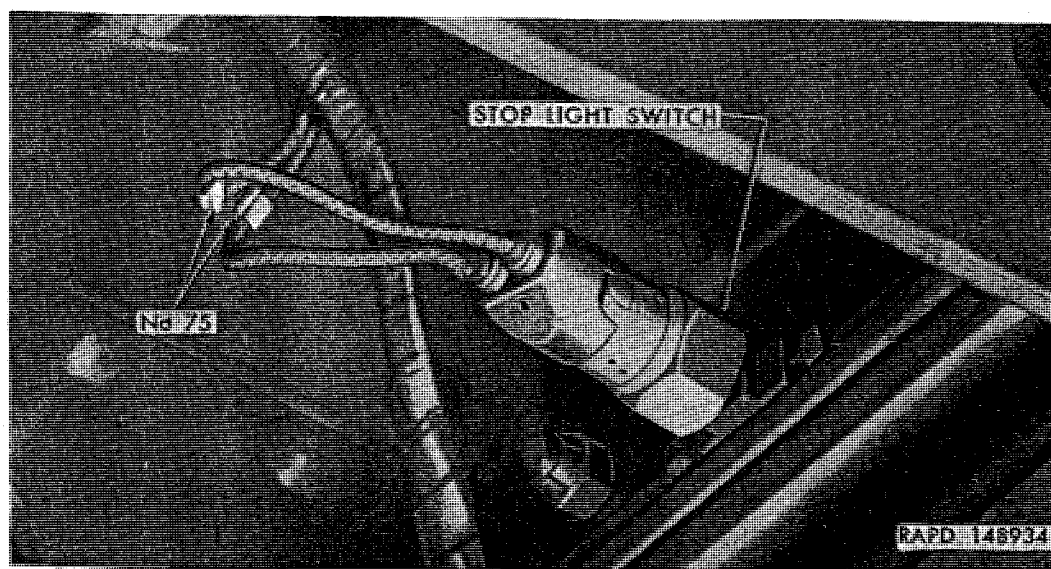

Figure 174. Hydraulic stop light switch installed.
- (1) Hydraulically operated stop light switch (fig. 174), used on all models, except truck tractor M221, is connected into hydraulic brake line at frame right side member ahead of rear air tank. When brakes are applied, hydraulic pressure closes switch contacts, completing circuit to blackout or service stop light, depending upon which circuit is energized through the main light switch (par. 45*b*).
- (1) *Hydraulic-type (all models except M221)* (fig. 174). Disconnect wiring harness cables from stop light switch terminals. Unscrew switch from tee fitting in hydraulic line. Do not apply brakes with stop light switch removed, and immediately install new switch to prevent loss of brake fluid and entrance of air into hydraulic brake lines.
- (1) *Hydraulic-type (all models except M221)* (fig. 174). Thread switch into tee fitting in hydraulic line and tighten firmly. Connect wiring harness cables (No. 75) to switch terminals. Bleed brakes (par. 237).